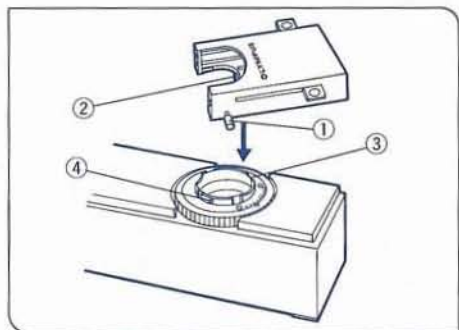
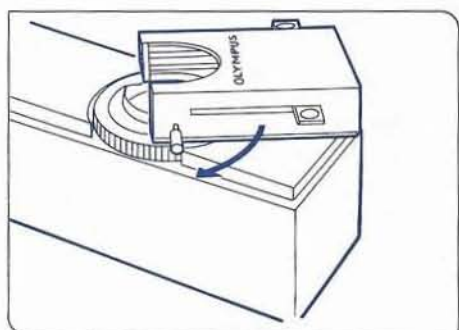

Fig. 22
Fig. 23
(Figs. 22,23)
1. Loosen the filter cassette clamping screw ①. (Fig. 22)
2. Holding the filter cassette above the light exit glass, align the key ② with the slot ③ and press the filter cassette into place from above.
3. Rotate the filter cassette to align its sides with the base. (Fig. 23)
4. Align the clamping screw ① with the positioning hole ④ on the light exit, then tighten the screw to fasten the filter cassette.